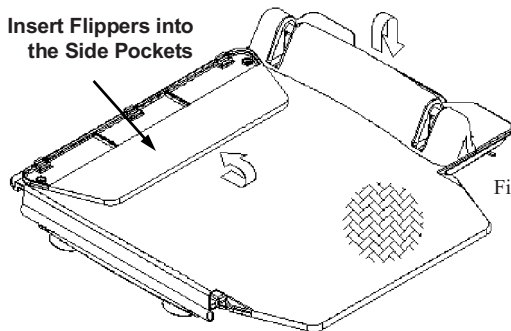

Fig. 8. Fitting the Seat Mat onto the seat panel
2. Put the Seat Mat on the seat and let the openings of the seat mat align with the hinge slot on the Seat, as shown in Fig. 8.